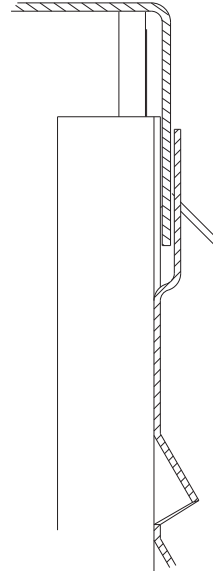

Fig. 4 - Side Panels Installed in Top of Panel
6. Using screws provided with kit, install end panels. Engage top notch in each panel to top cover flange as shown in Fig. 4. Drive screws through panel and into basepan and plastic grommets in post.
7. Install side panels engaging notch in top of panel as shown in Fig. 4. Install screws through panel into basepan and grommets previously installed.